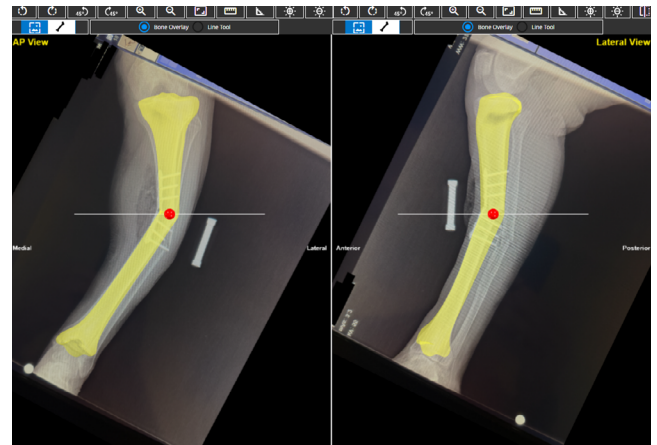

Figure 32
2. Select the image to be manipulated. Toggle between the X-ray image and the bone model by clicking on the associated icons (**Figure 32**).